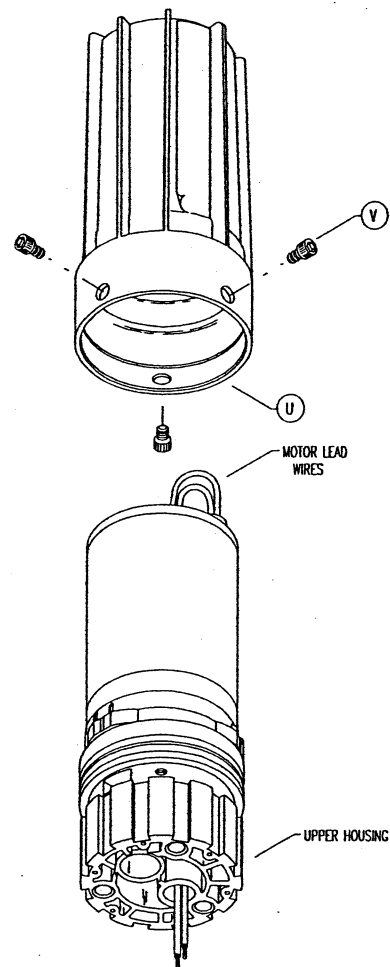

FIGURE 12
6) Install the Canister (Part U) (Fig. 12).
7) Install the Screws (Part V) (Fig. 12).